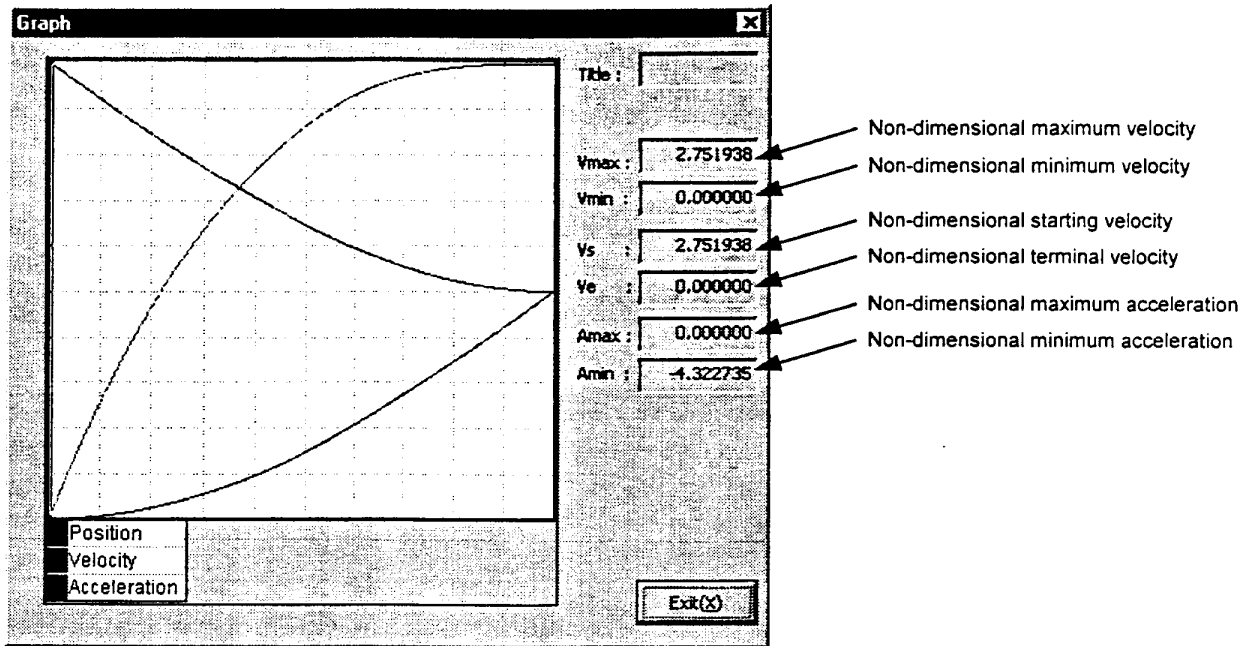

Figure 7.51 "Universal cam profile" graph
- 4) Click "Graph (G)" in the "Universal cam profile" dialog box to display the graph of a universal cam profile (see figure 7.51).